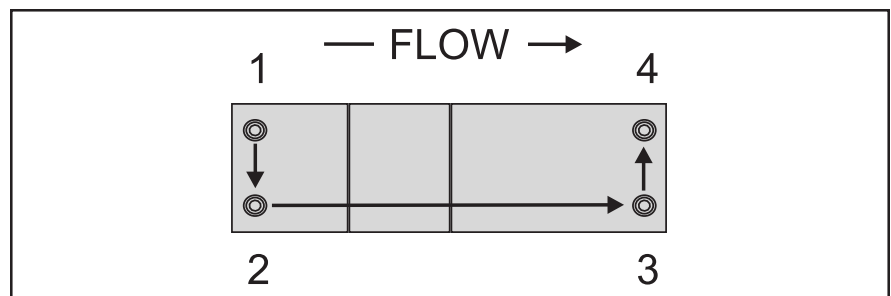

Figure 2-3 Mounting Screws Torque Pattern
4. Using a torque wrench and a metric hex key, tighten the screws to the torque value as described in Table 2-1 and the Torque Pattern in Figure 2-3.